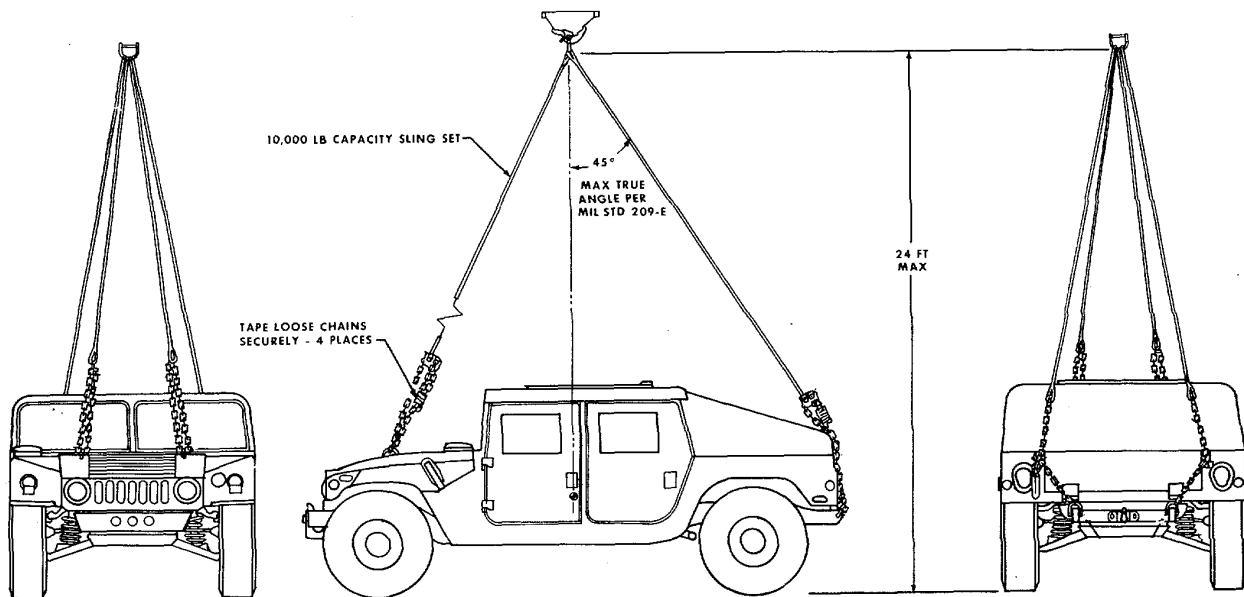

Figure 4-5. Typical sling loading of basic HMMWV for external lift by helicopter.
a. The HMMWVs can be externally transported by CH-47 and CH-53 helicopters. Figures 4-5 through 4-7 show the proper method to sling load the HMMWVs. This method is also used when the HMMWV must be lifted for other modes of transportation. The data plate, located on the left rear fender of each HMMWV, also shows the sling-load diagram.
a. *Lifting.* The vehicle has four lifting points, two in the center of the hood and two at the rear of the vehicle. The vehicle will be lifted using the four-legged sling method, as shown, in figures 4-5 through 4-7 in chapter 4 and on the data plate on the left rear fender or each HMMWV.